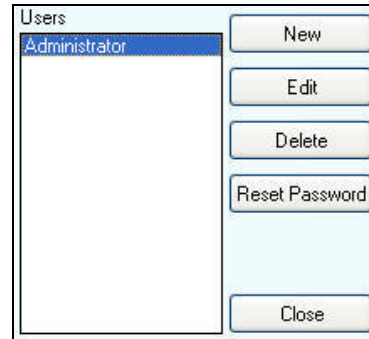

Figure 1.2.2
2. Highlight the user’s name that you wish to edit (Figure 1.2.2).